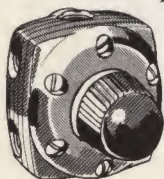

Fig. 72
90. What is an air regulator? (Fig. 72)